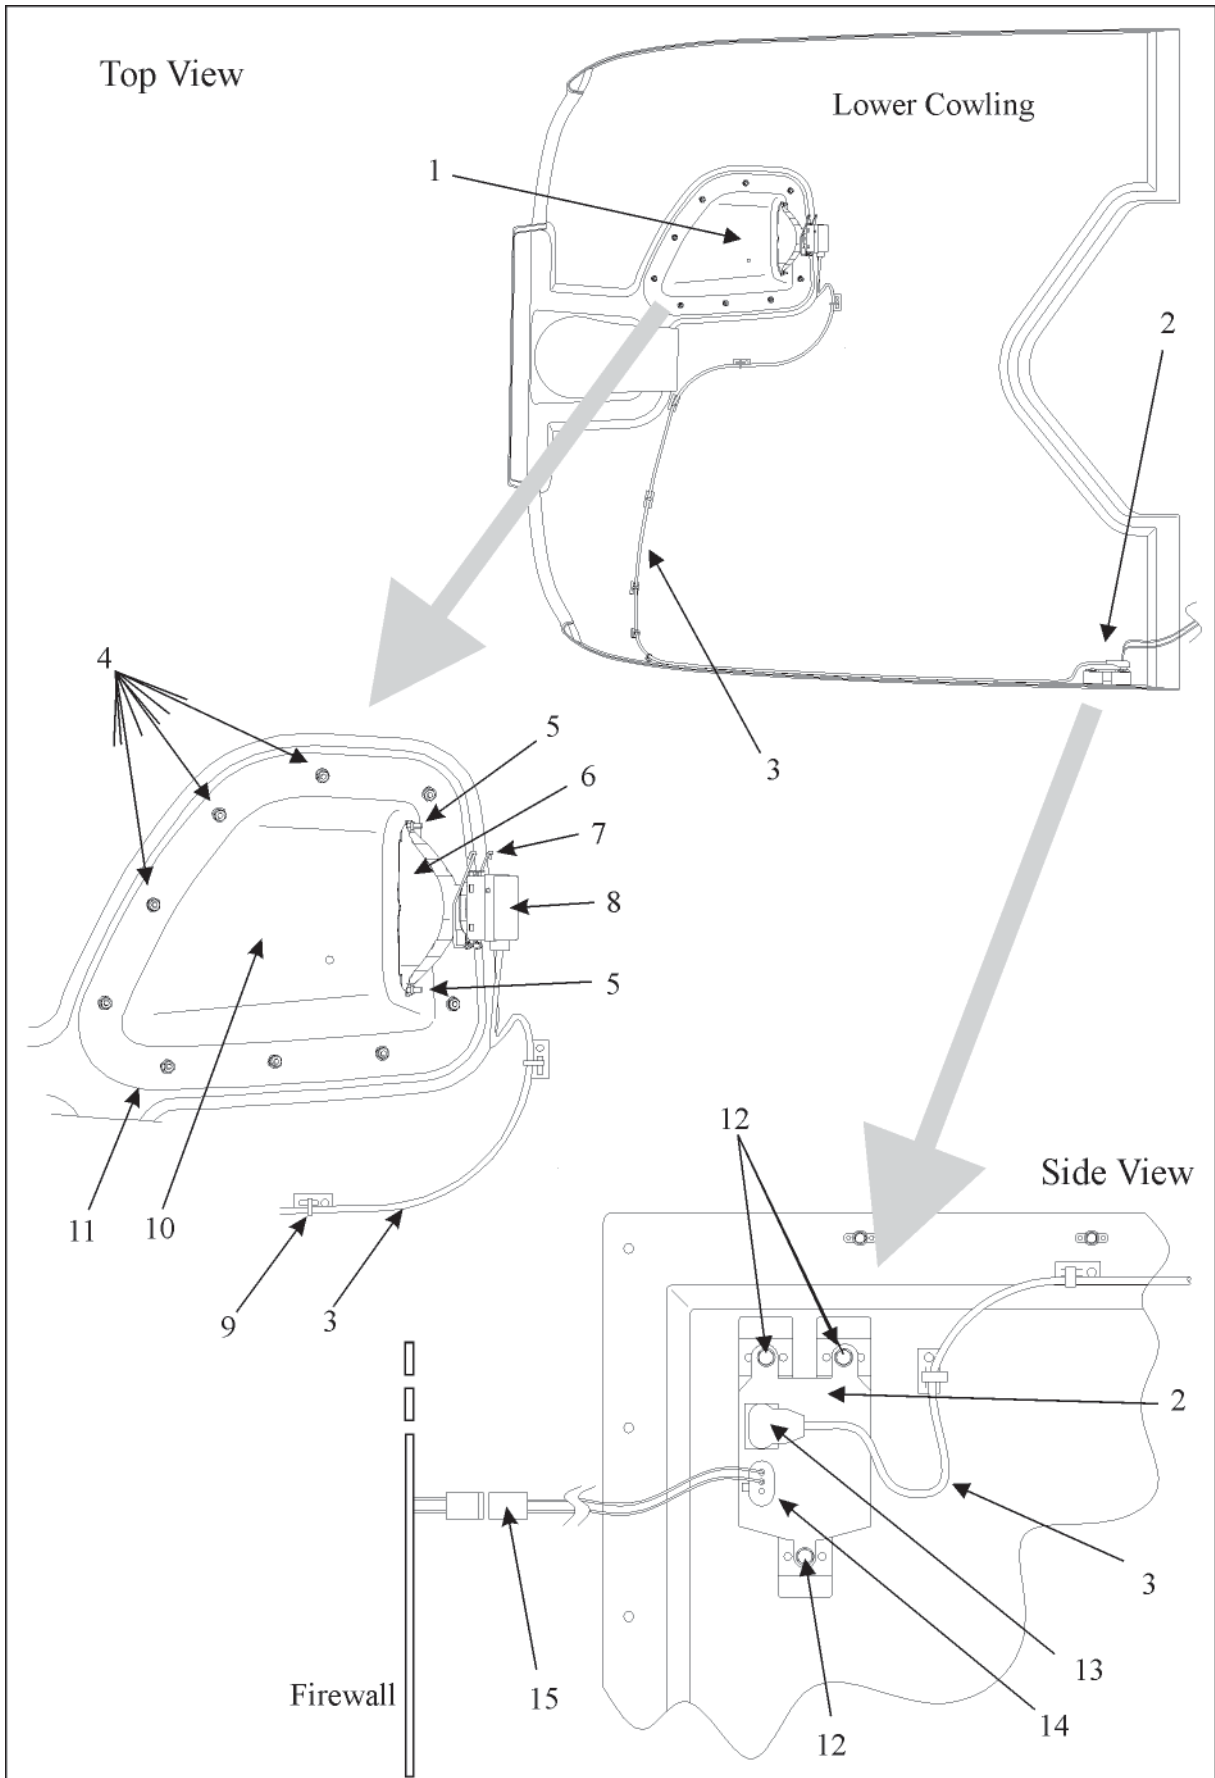

Figure 4 Landing Light
Refer to Figure 4. Alternatively a LED landing light (1) consisting of a hood (9), a glass (10) and a head lamp (8) is integrated in the RH bottom half of the engine cowling. The electrical wiring (4) connecting the LED landing light is fastened with cable straps (5) and cable retainers to the bottom half of the engine cowling. It features a plug-and-socket connection on each side (2, 3).
- 3 Disconnect the plug (2, Figure 4) from the LED head lamp (8).
- 4 Remove the attachment bolts (6) and remove the hood (9) and the glass (10) which is located under the hood.
- 2 Remove the attachment bolts (7, Figure 4).
- 3 Remove the LED head lamp (8) from the hood (9).